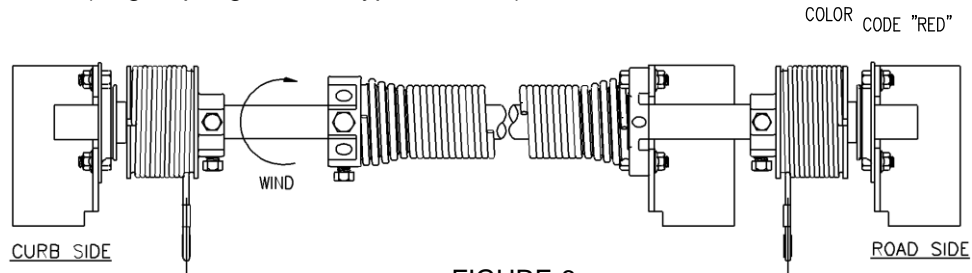

FIGURE 6
- a.) 3 mounting brackets are required, "center", roadside* and curbside*. It is important that mounting surface is flush (in line) to all three locations. If necessary, install mounting plates of sufficient size to serve as a base for the balancer brackets. SEE FIGURE 6